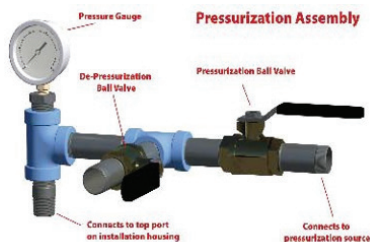

Figure D-23
**D2.14)** Plug in the pump. Open the pressurization ball valve. Ensure de-pressurization ball valve is closed (see Figure D-23).